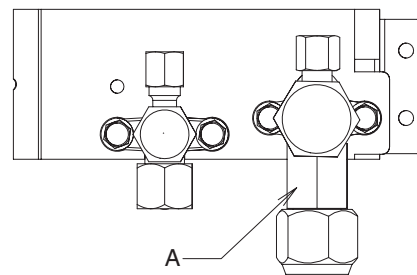

Fig. 5-7
- When removing or tightening the wide tube flare nut, use 2 monkey wrenches together: one at the wide tube flare nut and one at part A. (Fig. 5-7)